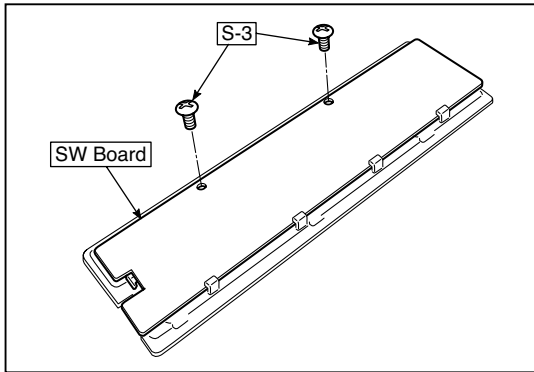

Fig.16
3.Remove the “S-3” screws shown in the figure 16 and then remove the SW Board.